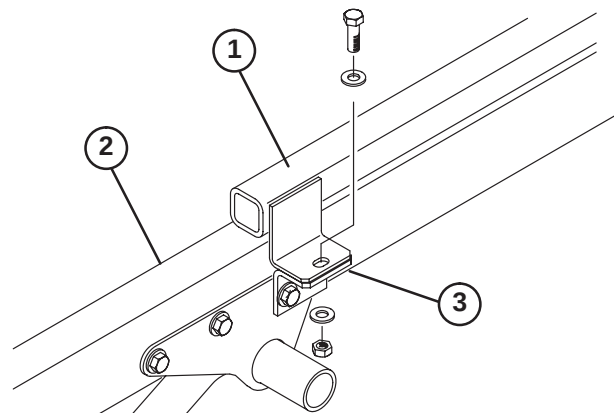

Figure 5
3. Remove the capscrew, (2) flatwashers and locknut securing each attachment bracket to hitch frame tabs (Fig. 5).